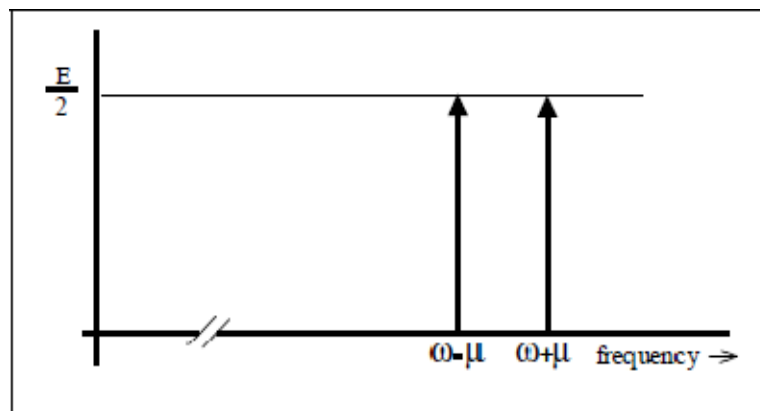

Figure 1: Spectral components
(3) shows that the product is represented by two new signals, one on the sum frequency  $(\omega + \mu)$ , and one on the difference frequency  $(\omega - \mu)$  – see Figure 1.